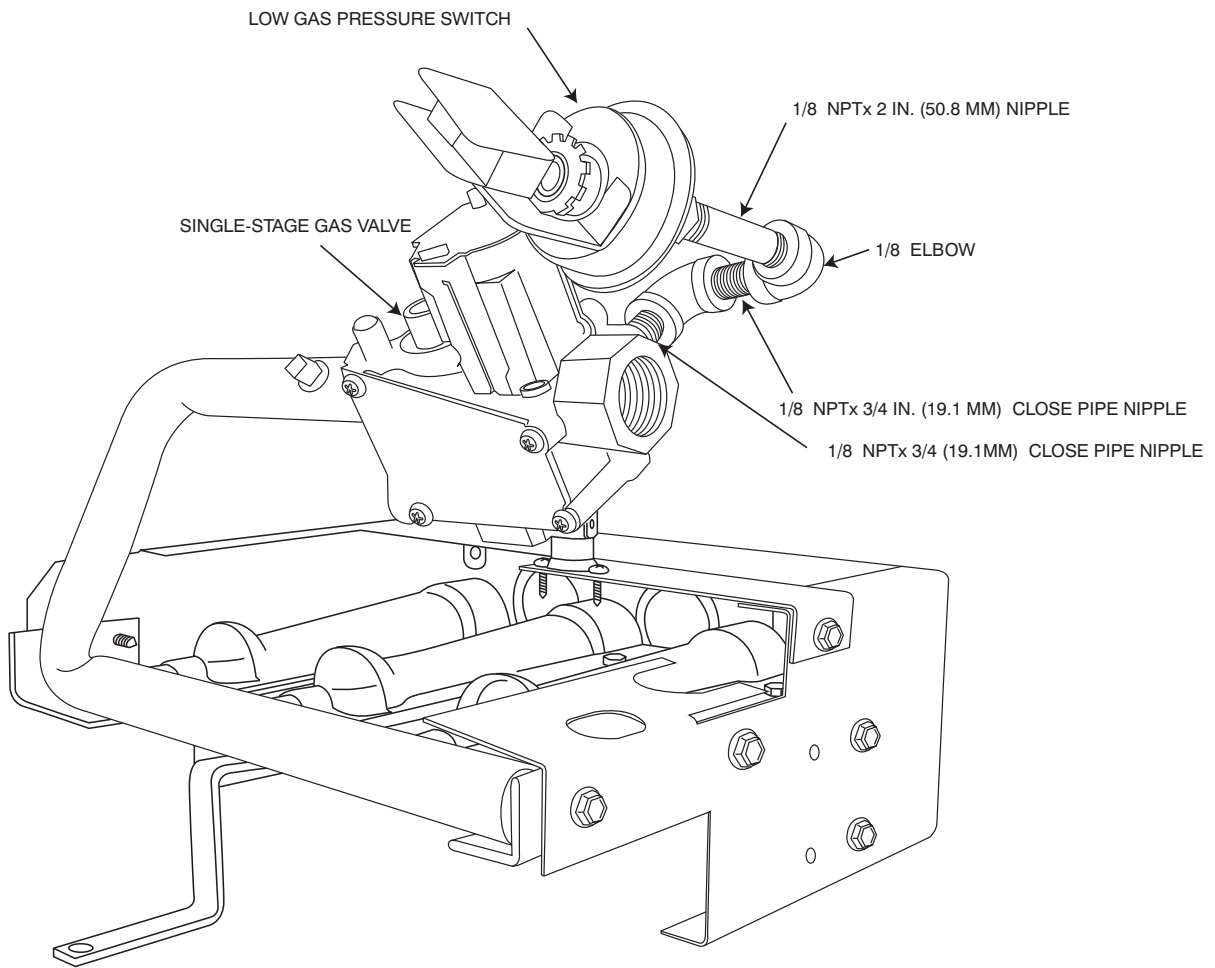

Fig. 6 - Installing Elbows, Nipples, and Pressure Switch on Single-Stage Units
16. Install the 1/8 in. NPT x 3/4 in. (19 mm) close pipe nipple where the plug was removed (see Fig. 6). Use pipe thread dope (field-supplied, must be certified for use with propane gas) for all joints, making sure not to get any excess in the pipe or valve. Next, install a 1/8 in. elbow, a 1/8 in. NPT x 3/4 in. (19 mm) close pipe nipple, 1/8 in. elbow, 1/8 in. x NPT 2 in. (51 mm) nipple, and a low gas pressure switch as shown in Fig.6.